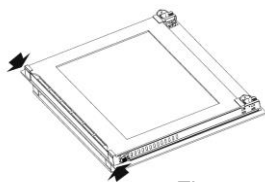
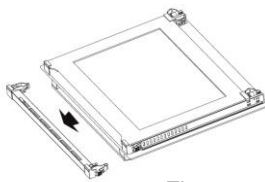
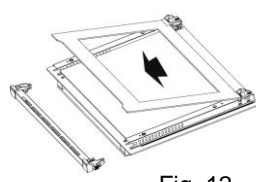

Fig. 10
Fig. 11
Fig. 12
1. Press the plastic latches located on both sides (right and left) of the profile as shown in Figure 10, then remove the profile by pulling it out as shown in Figure 11. The glass will be free after removing the profile, as shown in Figure 12. Pull the released glass very carefully towards you, if it includes a central glass it can also be removed in the same way, the outer glass is fixed to the door frame. Once the crystals are clean, proceed to place them in the reverse way to that described to extract them.